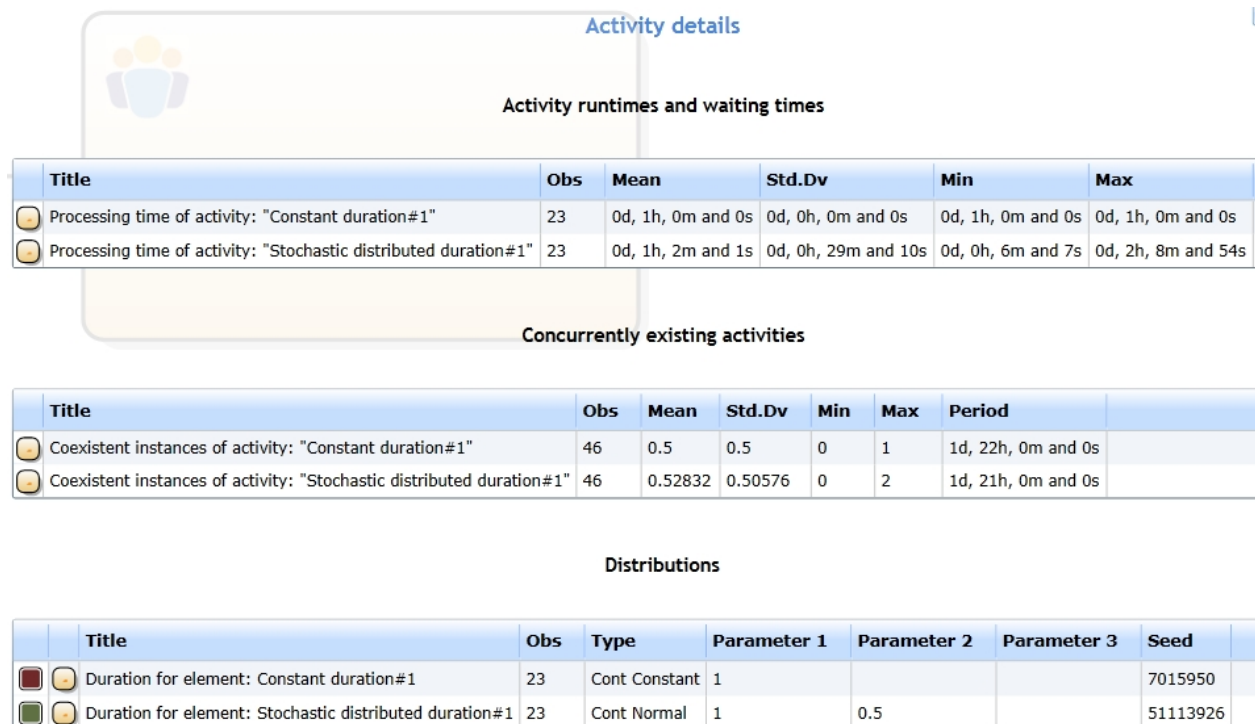

Figure 5: The report's activity details
- We notice that "Constant duration" activity really was constant (1st line of the activity run-times and waiting times table from figure 5)
- The Distributions table from Figure 5 simply shows the Distributions' configurations, which we set